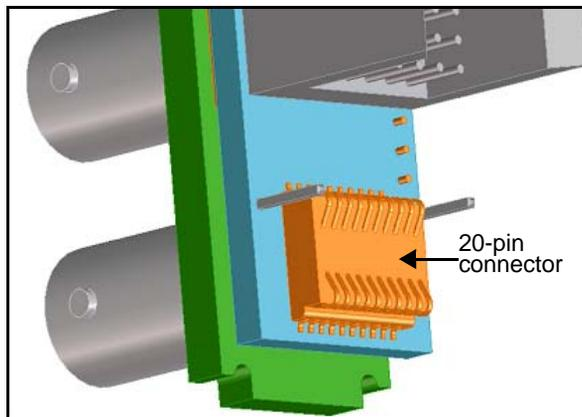

Figure B-1. Back Module to Front Module Connector
- c. View the 20-pin spring connector at the bottom of the back module.(See Figure B-1.)